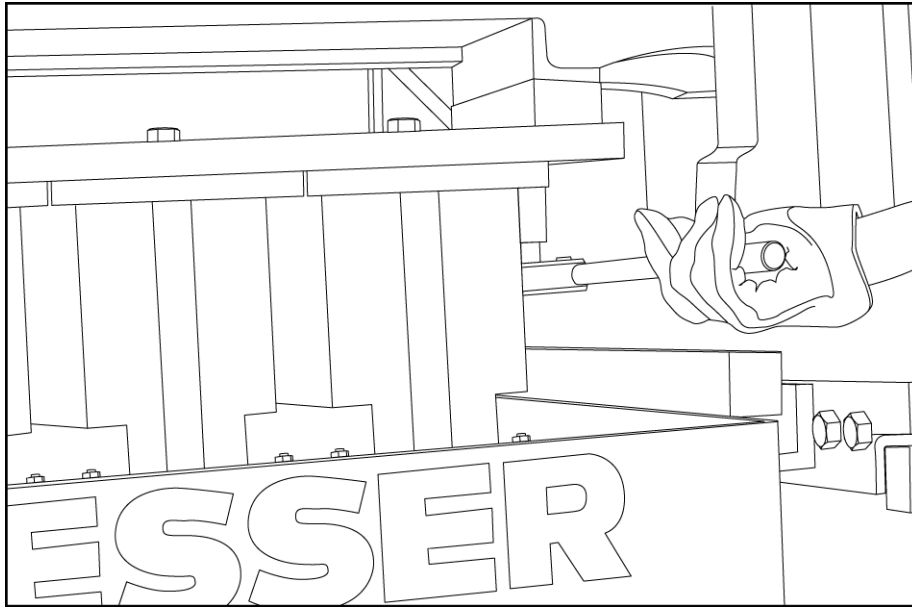

Figure 5.15 BOLT STRIPPER HEAD PLATE TO STRIPPER HEAD FRAME
- 5.4.23 Bolt stripper head plate to stripper head frame. **Do not tighten bolts completely.** Tighten until head plate contacts the stripper head frame (see figure 5.15).